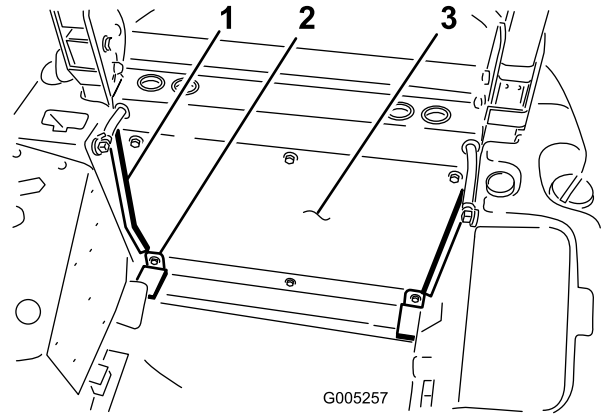

Figure 61
2. Align the corner mat mounting holes with the bottom holes in the rear panel and the lower frame cross member holes (Figure 61). Secure the corner mats to the rear panel and cross member with 2 rear panel mounting screws previously removed. Use the remaining screw to secure the bottom middle of the rear panel to the cross member.
4. Remove the backing and affix the self-adhesive seals to each edge of the rear panel (Figure 61). Make sure each seal butts up against the fuel tank side panels.